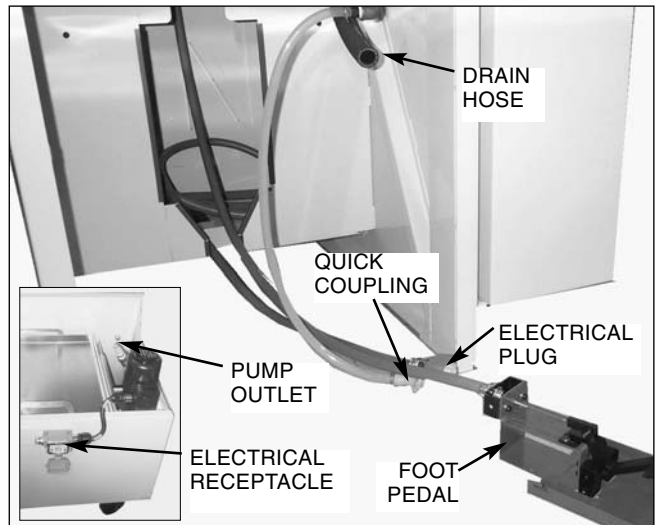

FIGURE 1-10, Quick Coupling
4. Connect Quick Connect Coupling from bottom of Drip Tray to Pump Outlet (*see Figure 1-10*).